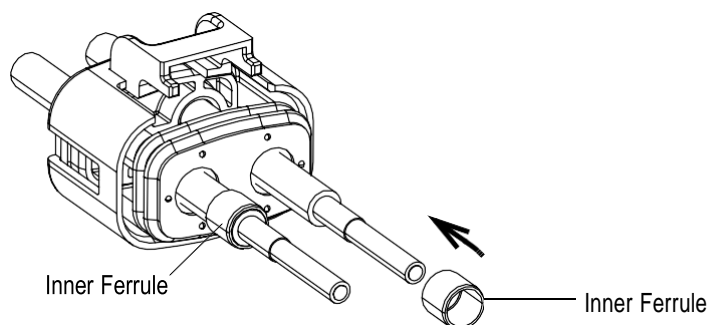

Figure 6
4. Insert an inner ferrule onto each cable and over the outer jacket as shown in Figure 6.